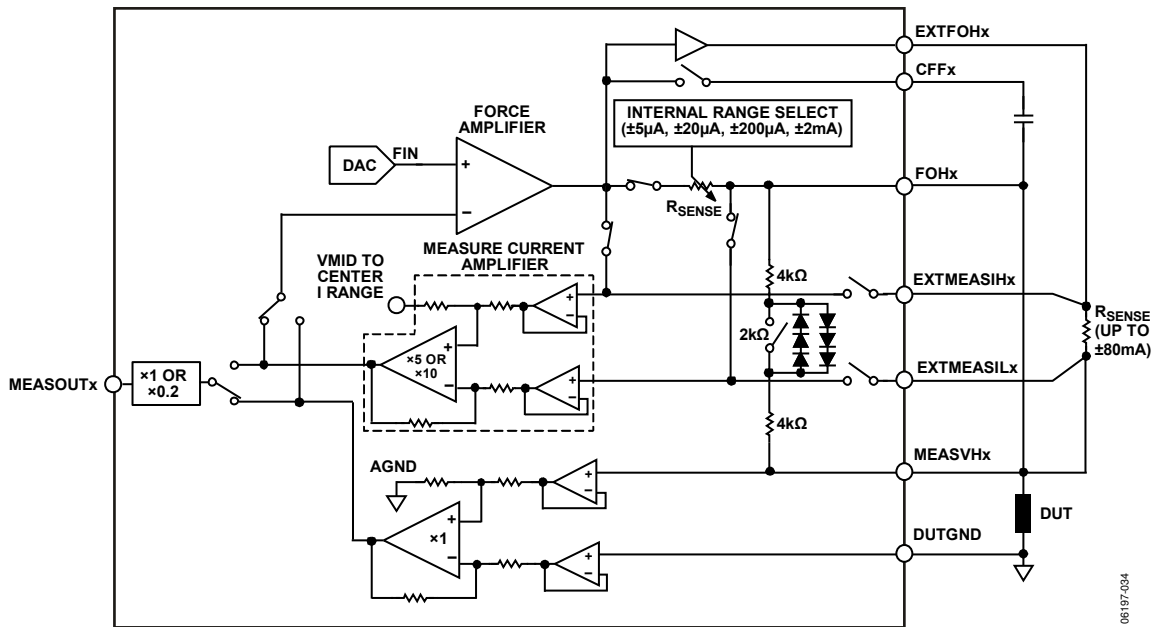

Figure 55. Forcing Current, Measuring Voltage
**FORCE CURRENT (FI) MODE**
In force current (FI) mode, the voltage at the FIN DAC is converted to a current and is applied to the DUT. The feedback path is the measure current amplifier, feeding back the voltage measured across the sense resistor. MEASOUTx reflects the voltage measured across the DUT (see Figure 55).